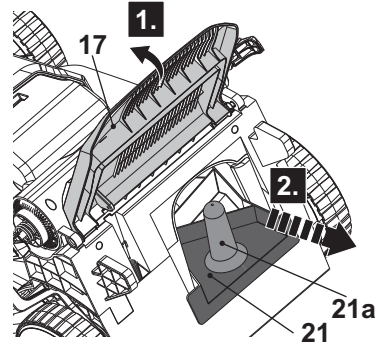

Fig. 17
2. Lift the handle (21a) to disengage the mulching insert (21) from the rear discharge chute slots (20b), then remove the mulching insert (21) (Fig. 17).